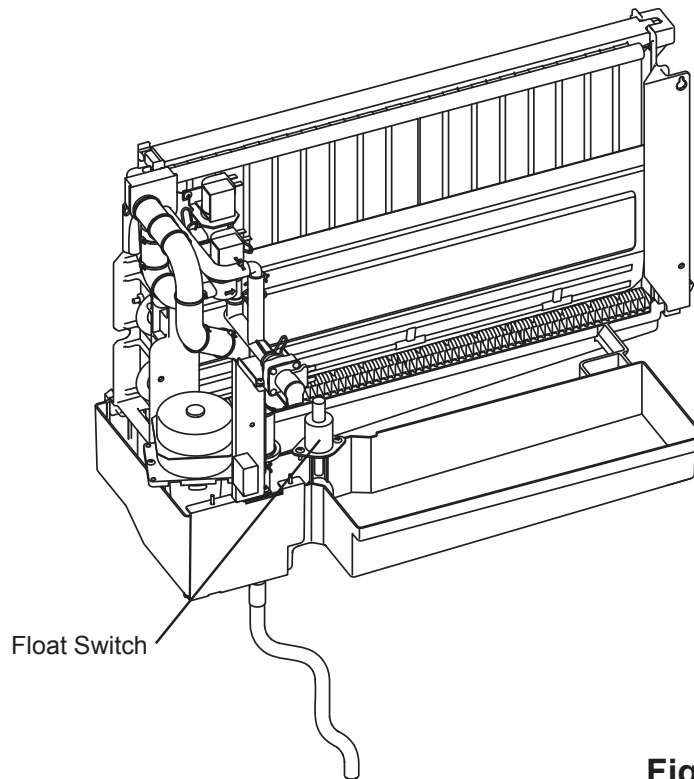

Fig. 10
- 17) Wash the bin control switch, water tank, float switch (see Fig. 10), cube guide and overflow pipe by using a nylon scouring pad, brushes and the cleaning solution. In addition to the removed parts, also wash the bin liner and bracket (L) (R) with the solution.